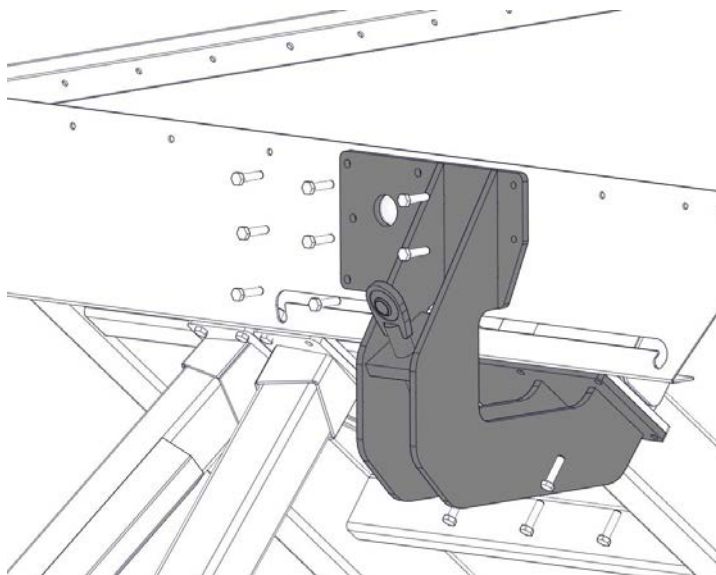

Fig. 9
- Attach panels 1 and 2 to the front and rear legs using (4) M10 x 25 hex bolts each. Place bolts in holes according to arrows in Fig 9. These bolts will be removed in the next step.
- Use (14) M10 x 25 hex bolts and nuts to install panels 3 & 4.
- Use (5) M10 x 25 Round head bolts and serrated flange nuts where the yellow box indicated above.